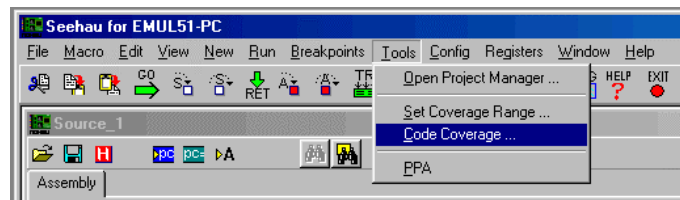

Figure 171. Selecting the Code Coverage Menu Item
1. From the **Tools** menu select **Code Coverage** (Figure 171). The Code Coverage window opens.